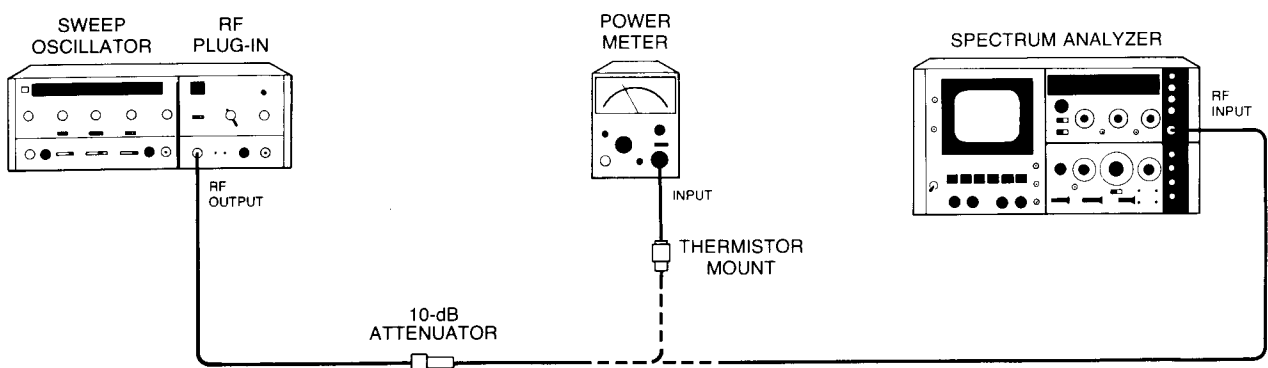

Figure 4-11. Spurious Signal Test Setup
- a. Connect equipment as shown in Figure 4-11 with power meter connected through a 10-dB attenuator to 86290A RF OUTPUT connector. Allow 30 minutes warm-up time.